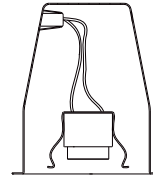

FIG. 2
2. Thread the SOCKET ADAPTER into the SOCKET (FIG. 2).